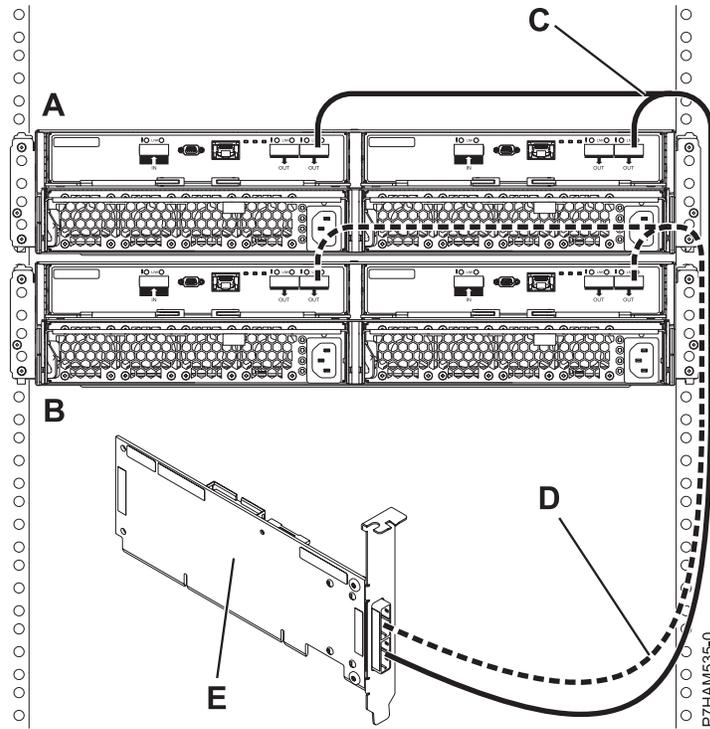

Figure 36. Mode 1 connection of two 58/87 disk drive enclosures by using YO cables to a single SAS adapter
10. Perform the mode 1 connection of two 58/87 disk drive enclosures (**A and B**) by using YO cables (**C and D**) to a single SAS adapter (**E**) as shown in Figure 36 on page 70.